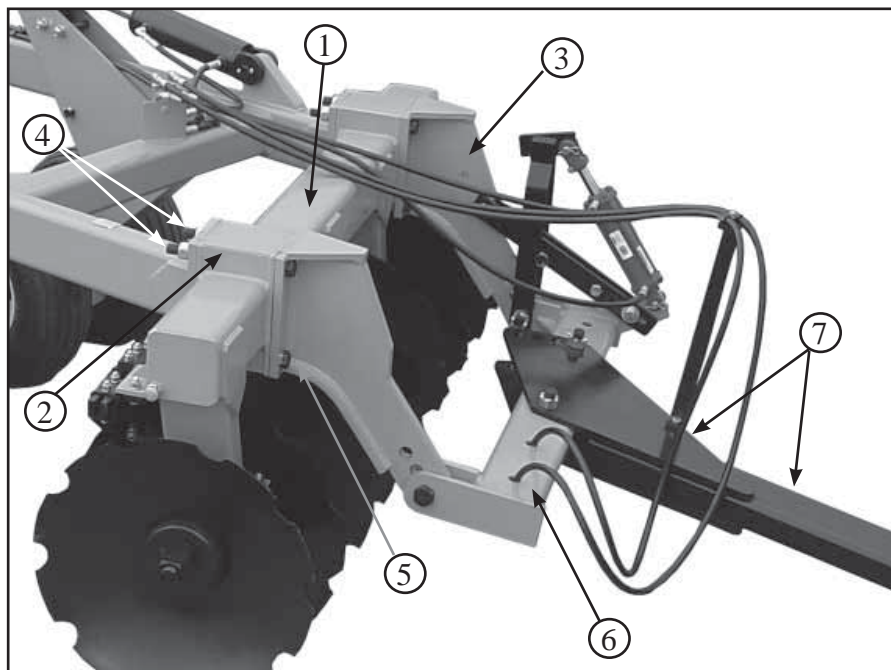

Figure 27
3.1.7 FRONT GANGS AND PULL BARS (Figure 27)
3.1.8 LEVELING BAR & LEVELING MECHANISM (Figures 27 & 28)
Tighten the pull bar bolts (4) & (5) (Figure 27) evenly